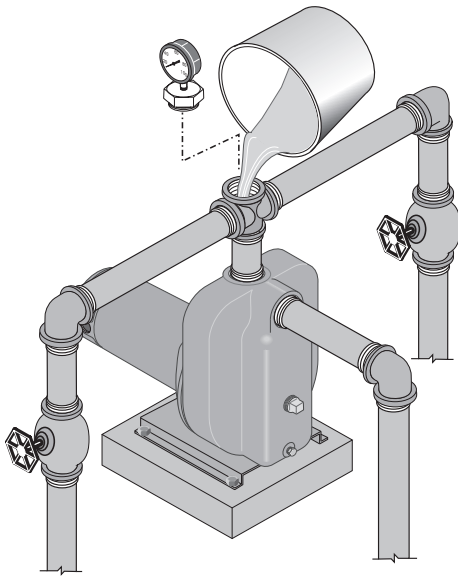

FIGURE 9 – REMOVE PRIMING PLUG AND FILL PUMP BEFORE STARTING
2. Remove priming plug. Fill pump and suction pipe with water (Figure 9). NEVER run pump dry. Running pump without water in it will damage seals and can melt impeller and diffuser. Be sure discharge (valve, pistol grip hose nozzle, etc.) is open whenever pump is running.